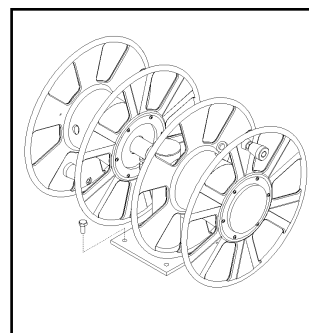

Figure 1
- 1) Four 1/2" diameter mounting holes are located at the base of the reel. Mount reel using four (customer supplied) bolts; tightening them securely to ensure a solid, rigid attachment. See figure 1.